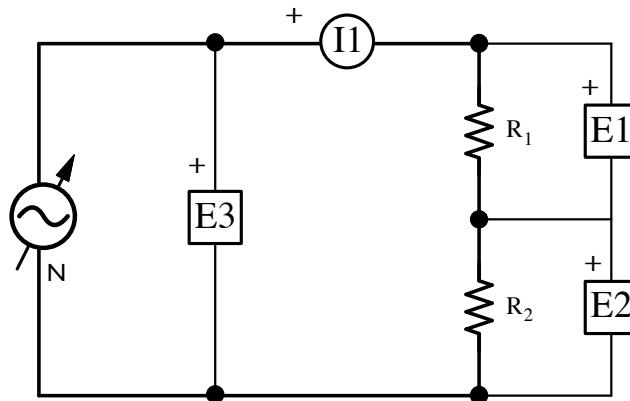

Figure 1.6: Voltage Divider Circuit
23. Add E1 and E2 to measure the voltage drop across resistors R_1 and R_2 , as shown in Figure 1.6, and adjust the source voltage to **100 V** with the voltage control knob.